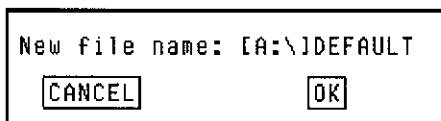

Figure 3-16. Create Window
4. Click on **<Create>** to display the Create window, Figure 3-16.